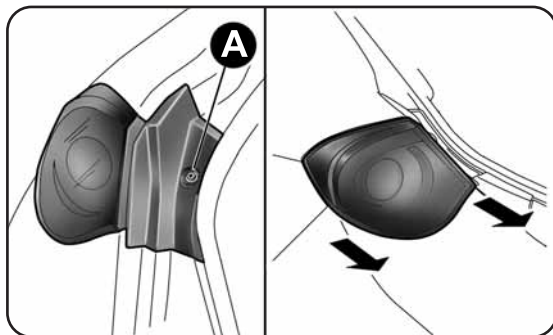

fig. 135
- open the boot and loosen the rear light cluster fastening screw A-fig. 135;
- extract the light cluster by removing it with both hands in the direction of the arrow (see fig. 135);